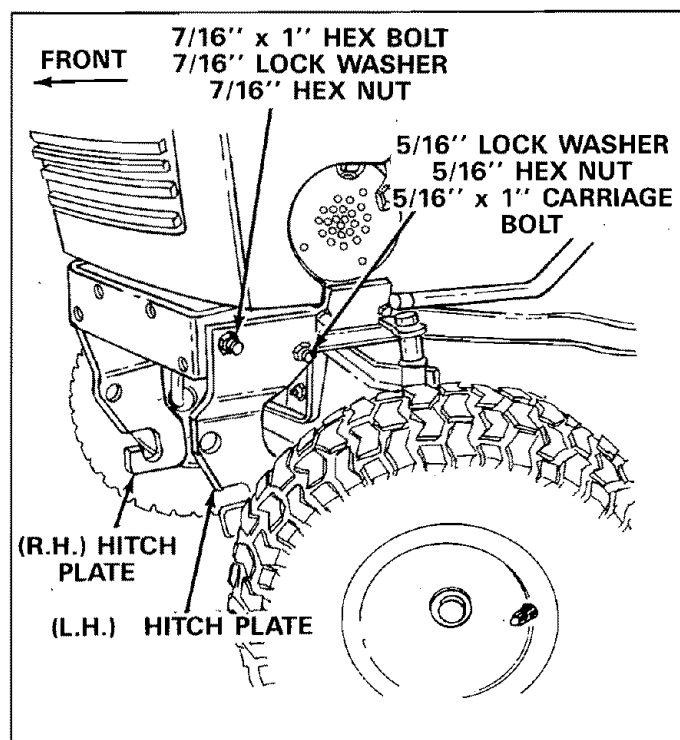

FIGURE 6
- Assemble right and left hand hitch plates to outside of hitch plate bracket with offset as shown in figure 6, using 5/16-18 x 1" carriage bolt and 7/16" x 1" hex bolt on each side; tighten securely with lock washers and hex nuts. See figure 6.
Offset on hitch plates must be toward inside as shown in figure 6.